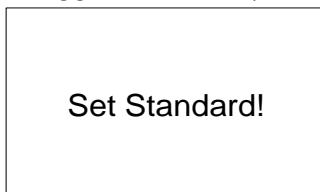
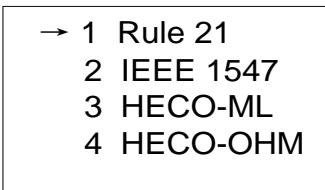

Figure 3.1 - Set Up Grid Standard
Figure 3.2 - Select Grid Standard
- (d) When the inverter completes “sys checking”, the LCD shows the screen as Figure 3.1 below. Press ENTER to the standard selection interface, as shown in Figure 3.2.